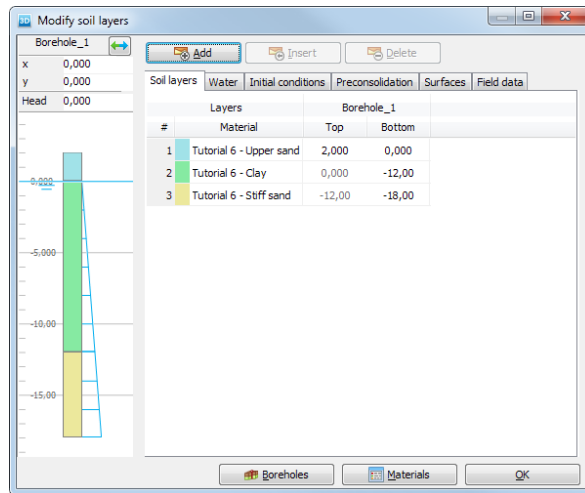

Figure 6.2 Soil layer distribution
- Assign the material data sets to the corresponding soil layers (Figure 6.2) and close the *Modify soil layers* window. The concrete data set will be assigned later.